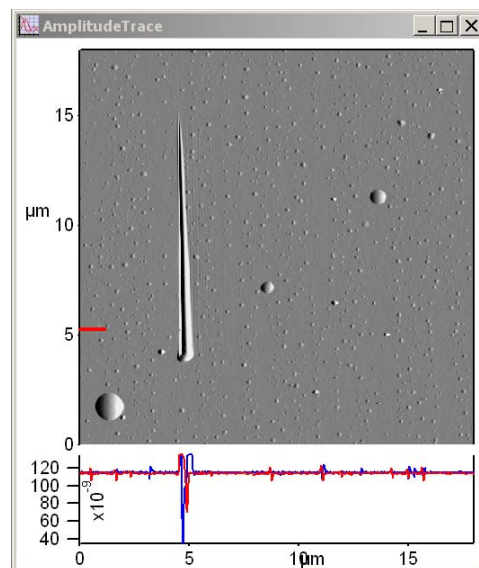

Figure 10.4: Results of Setpoint Wave
- An example of scratch lithography using the varied Set Point Wave is demonstrated in Figure 10.4.
▪ Figure 10.4 shows the results of this ramping Set Point (applied force). As expected, with increasing Set Point voltage/ force, the tip plows further into the polycarbonate surface as it traverses the defined path, seen as a feature increasing in width.
- In this case, the lateral data is shown, representing the torsion on the cantilever during the lithographic event shown in Figure 10.4 (above).